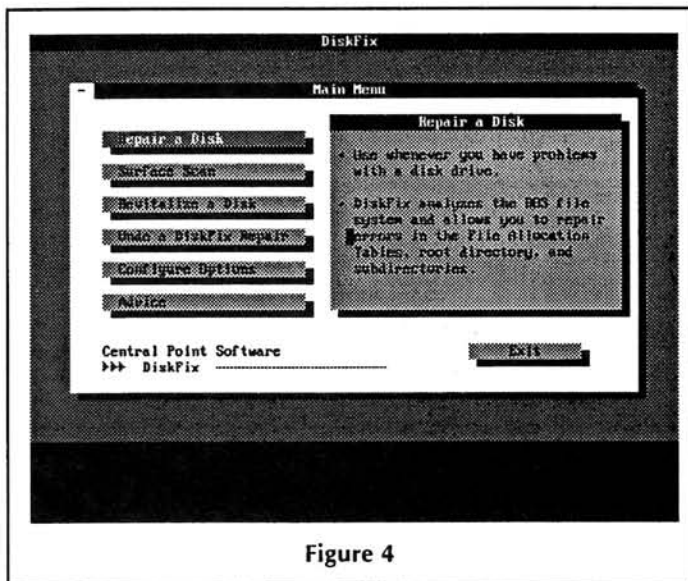

Figure 4
2. DISKFIX (Figure 4) detects and fixes various floppy and hard disk problems related to FAT, directories, clusters, and sectors.